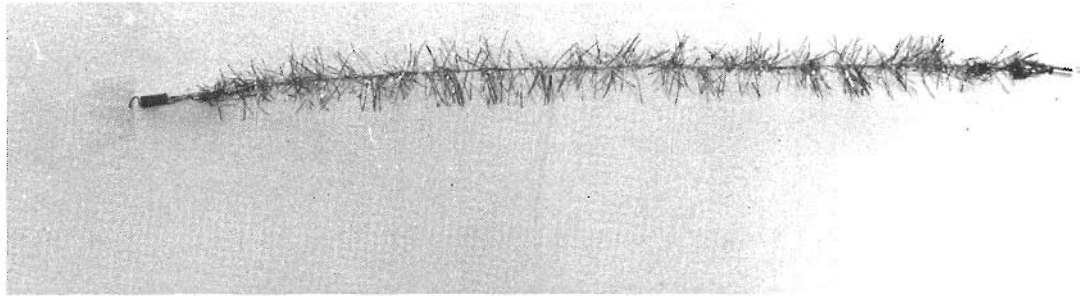

FIGURE 14
11. Install three tinsel assemblies (figure 14) as follows: